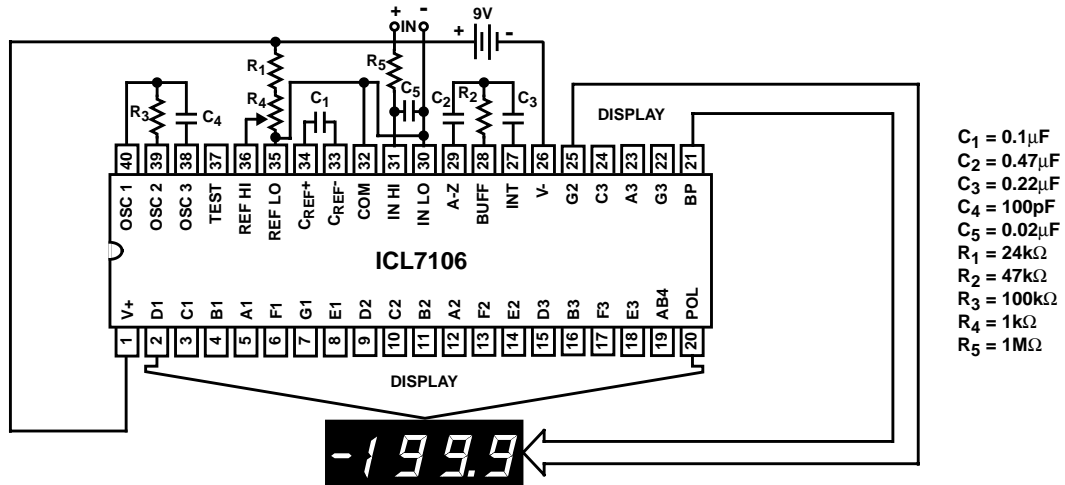
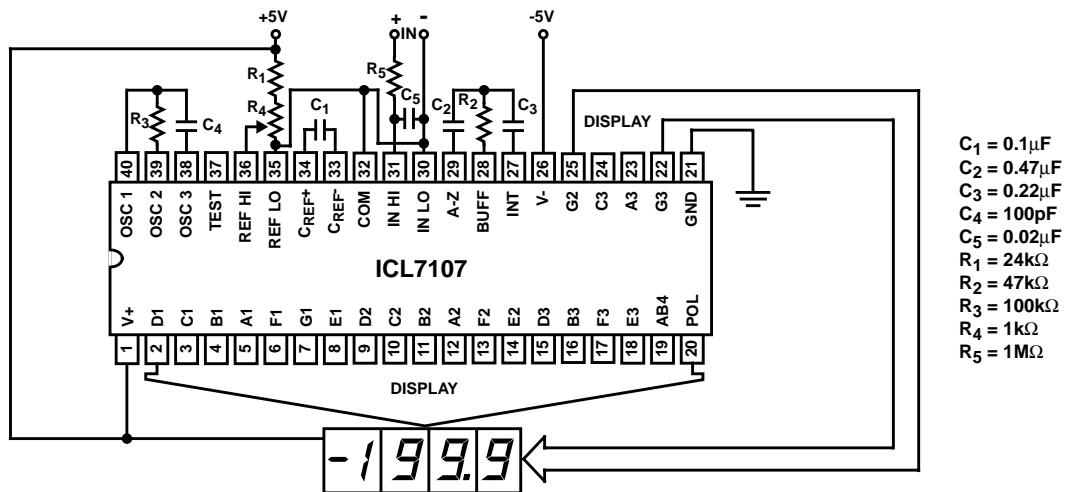

FIGURE 1. ICL7106 TEST CIRCUIT AND TYPICAL APPLICATION WITH LCD DISPLAY COMPONENTS SELECTED FOR 200mV FULL SCALE
FIGURE 2. ICL7107 TEST CIRCUIT AND TYPICAL APPLICATION WITH LED DISPLAY COMPONENTS SELECTED FOR 200mV FULL SCALE
4. Unless otherwise noted, specifications apply to both the ICL7106 and ICL7107 at $T_A = 25^\circ\text{C}$, $f_{\text{CLOCK}} = 48\text{kHz}$. ICL7106 is tested in the circuit of Figure 1. ICL7107 is tested in the circuit of Figure 2.